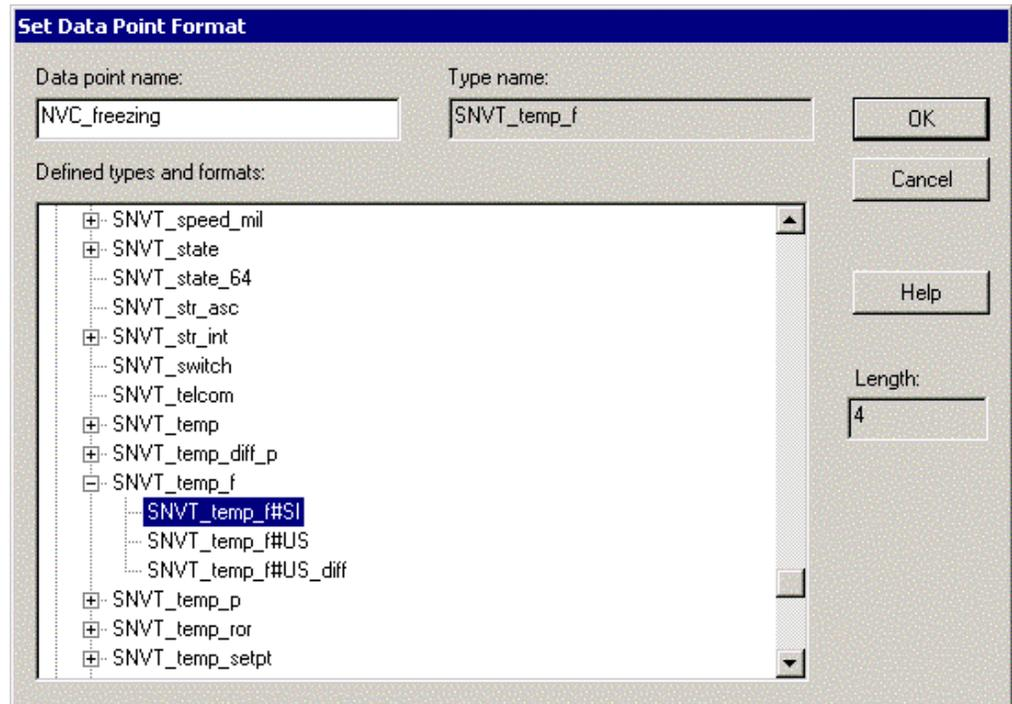

Figure 4.7 Set Data Point Format Dialog
- Choose **STANDARD.FMT** from the **Type Files** list, select **SNVT_temp_f#SI** from the **Type List**, and set **Data Point Name** to **NVC_freezing**, as shown in Figure 4.7.